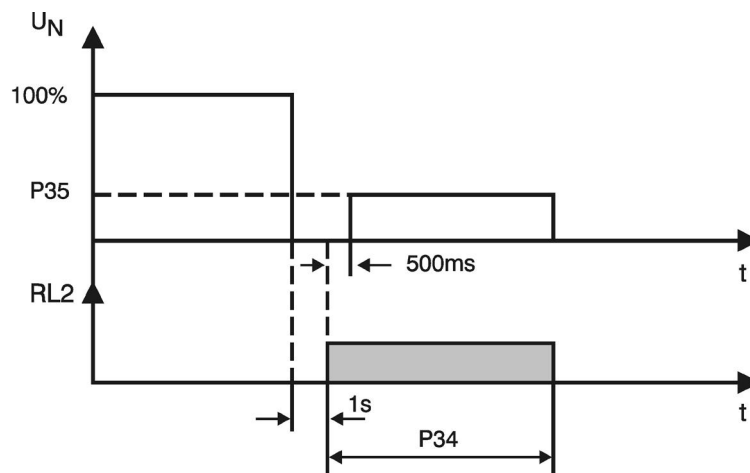

Figure 5.12: Relay for DC Braking function
- 3) “DC Braking” function – the relay is switched on when the Soft-Starter receives a command to stop. A contactor must be used for this function. According to figure 5.12.